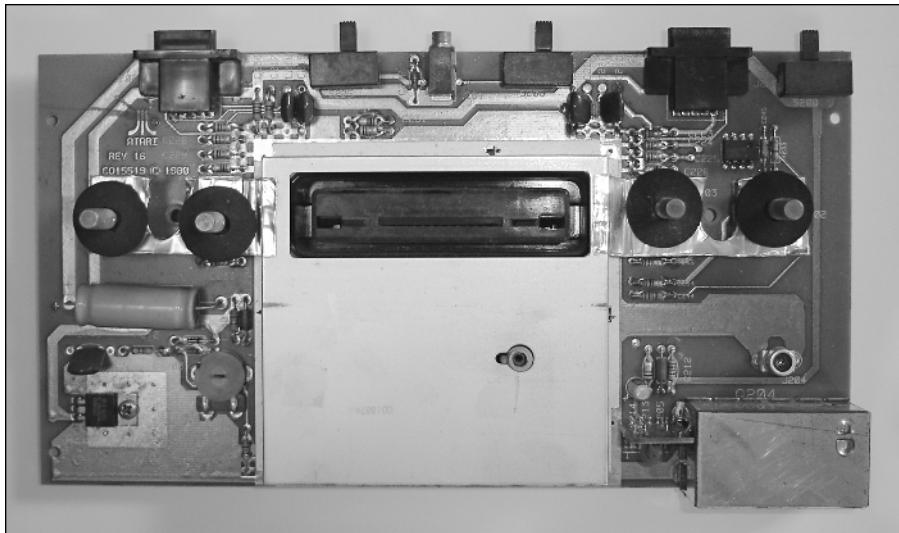

FIGURE 15-1: The main Atari 2600 board.
2. Once you've gotten those pesky screws out of your way, pull the case apart. It may take a bit of gusto, but it will pop open. Remove the RF cable from the plug on the Atari board and it should look like what's shown in Figure 15-1.